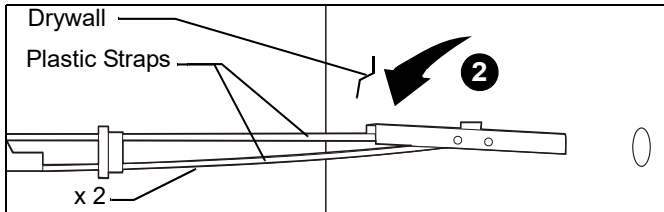

Figure 11
2. Hold metal channel on Toggler® 1/4-20 Snap-Toggle (not included) flat alongside plastic straps and slide channel through hole. (See Figure 11)